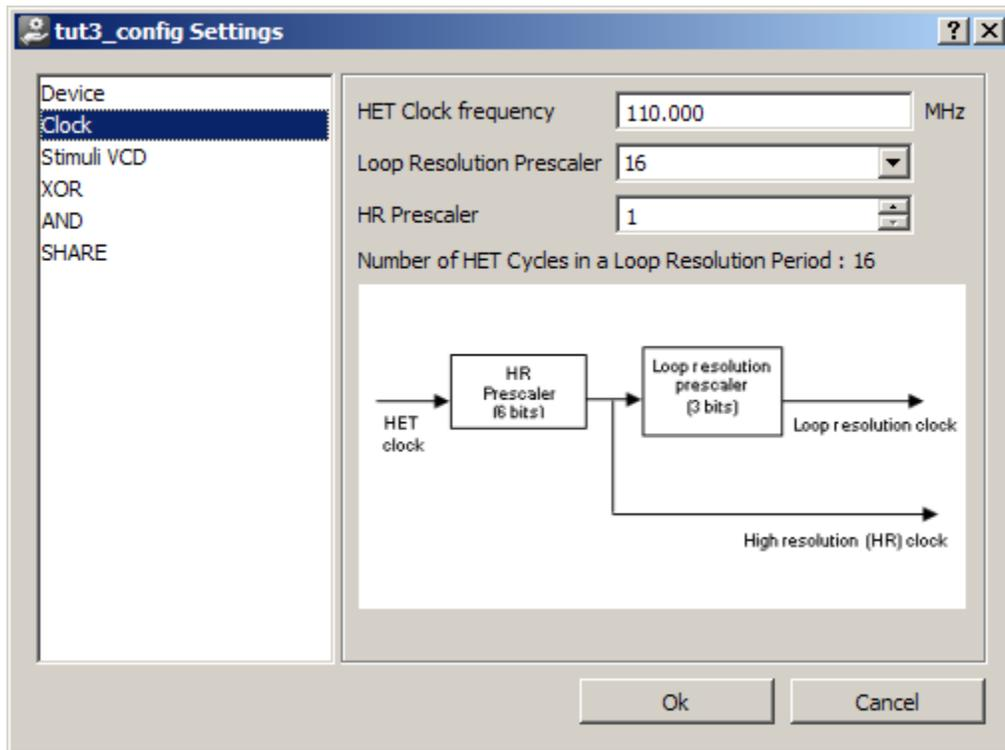

Figure 27. Changing the Clock Configuration to 110 MHz HET Clock and LR Clock Divider to 16
- (b) Change the HET Clock Frequency to 110 MHz (9.09 ns period) (see Figure 27).
- (c) Change the Loop Resolution Prescale to 16 (see Figure 27). Leave the HR Prescaler at 1. With these settings, the Loop resolution clock period should be $16 * 9.09 \text{ ns} = 145.5 \text{ ns}$.